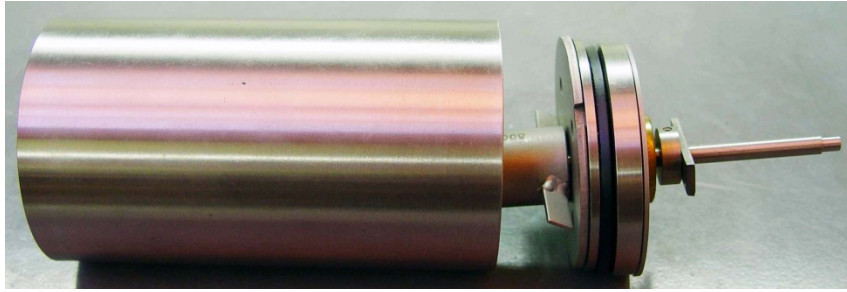

Figure 3-6 Center Paddle Inserted into Slurry Cup Sleeve
4. Insert the center paddle into the slurry cup sleeve (Figure 3-6).